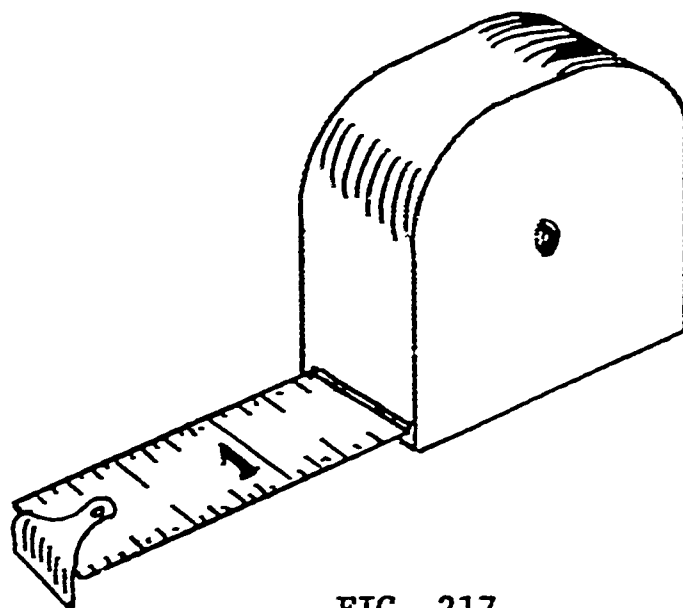

FIG. 217
8. The measuring tape is an essential part of the "tools of the trade". Accurate measurement cannot be overemphasized. Every custodian should have a 6', spring back, metal measuring tape. This tool can be used for measuring board length, room size, ceiling height, and countless other situations requiring measurement. See figure 217.